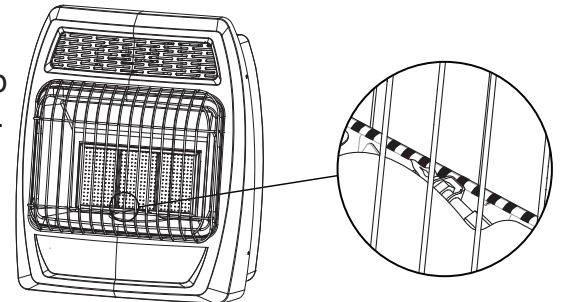

Fig. 24 - Pilot Flame Location
6. With control knob depressed, push down on the ignitor button until the pilot lights. The pilot is visible centered below the plaques, behind the front grill. (See Fig. 24 on page 19)
7. Keep control depressed for (30) seconds after pilot lights. Release control knob.